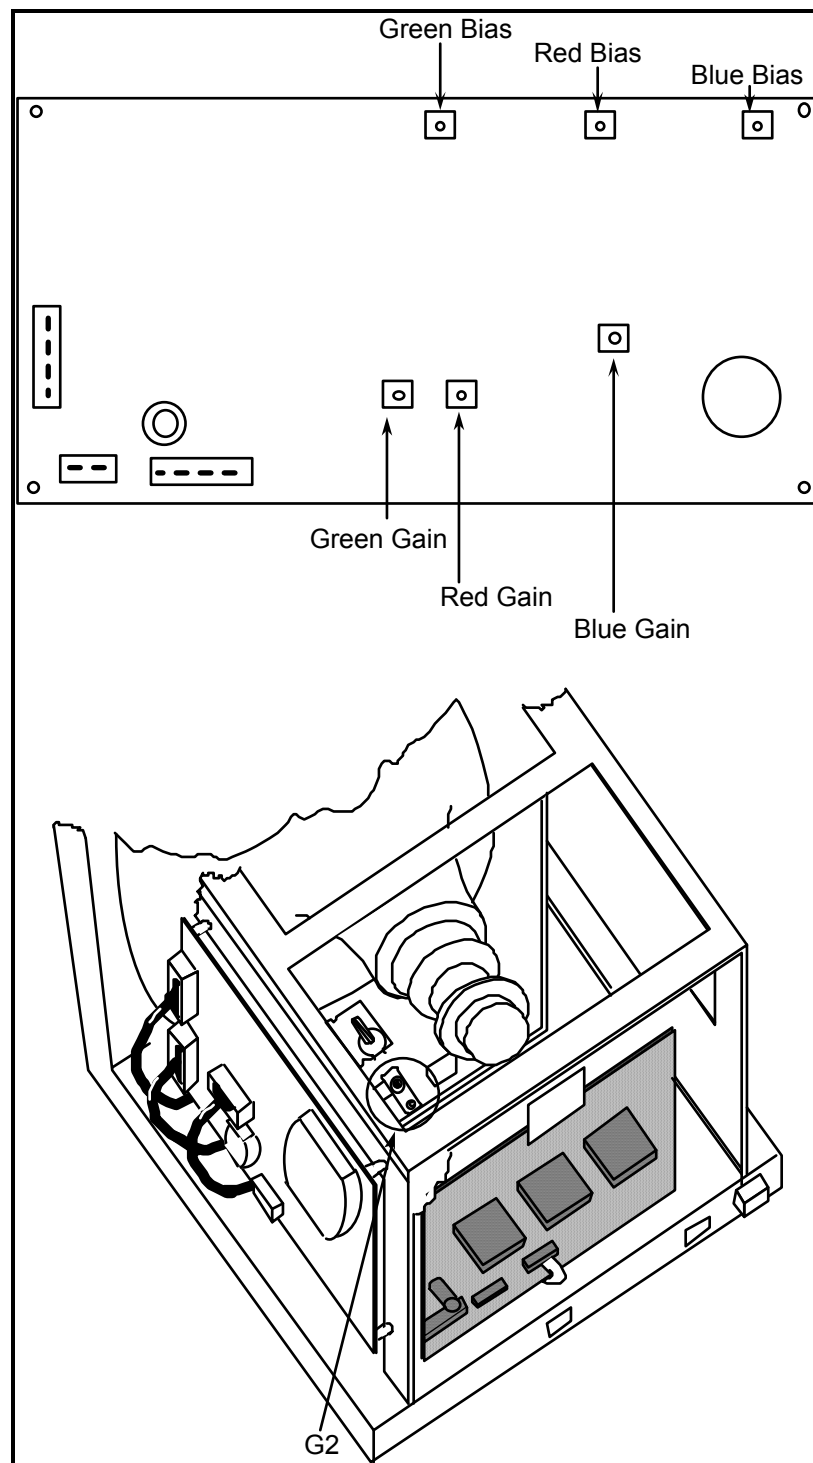

Figure 5-3 — Location of Controls (VID-132) for Color Temperature Adjustment 2767
3. The controls required for this adjustment are located on the video circuit card, VID-132. Location of the card and controls is shown in Figure 5-3.